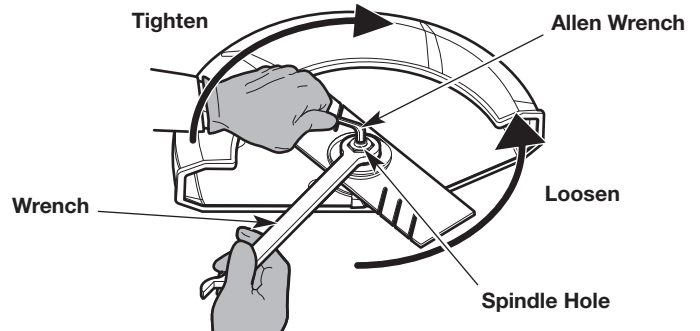

Fig. 12
1. Place a 15/16 in. wrench over the lock nut (Fig. 12).
2. Insert a 5/16 in. Allen wrench into the spindle hole (Fig. 12).
3. While holding the Allen wrench in place, loosen the lock nut by turning it counterclockwise with the wrench (Fig. 12).
2. Place the wrench over the lock nut (Fig. 12).
3. Insert the Allen wrench into the spindle hole (Fig. 12).
4. While holding the Allen wrench in place, tighten the lock nut by turning it clockwise with the wrench (Fig. 12). Make sure that the edger blade stays flat and centered against the output shaft while tightening the lock nut. Tighten the lock nut until the edger blade is firmly secure.